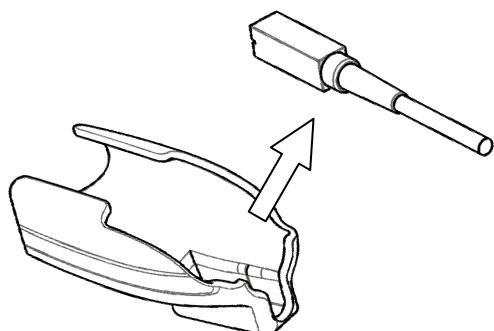

Fig.12 How to release the Magnetic sensor
- 2) Release the magnetic sensor from the magnetic sensor attachment as shown in Fig.12.